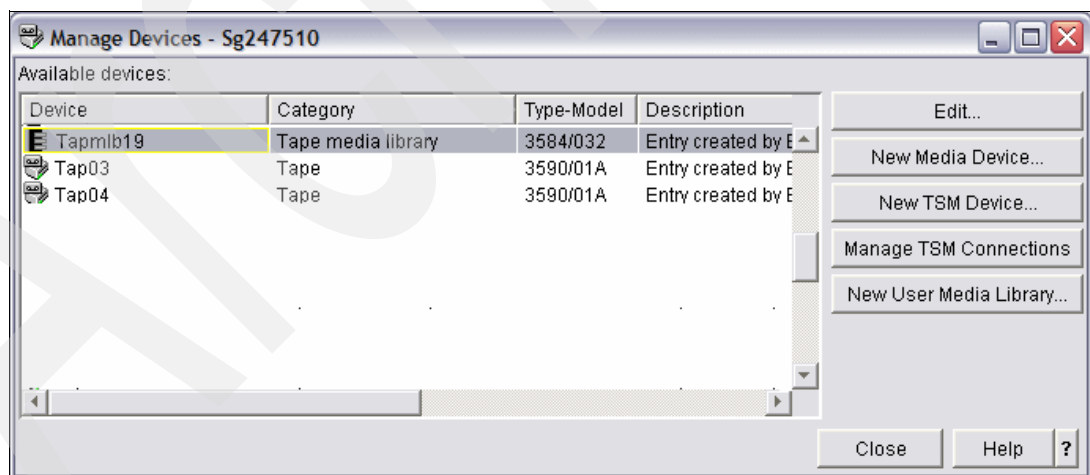

Figure 6-6 Manage Devices
3. In the Manage Devices window (Figure 6-6), select your tape library and click **Edit**.